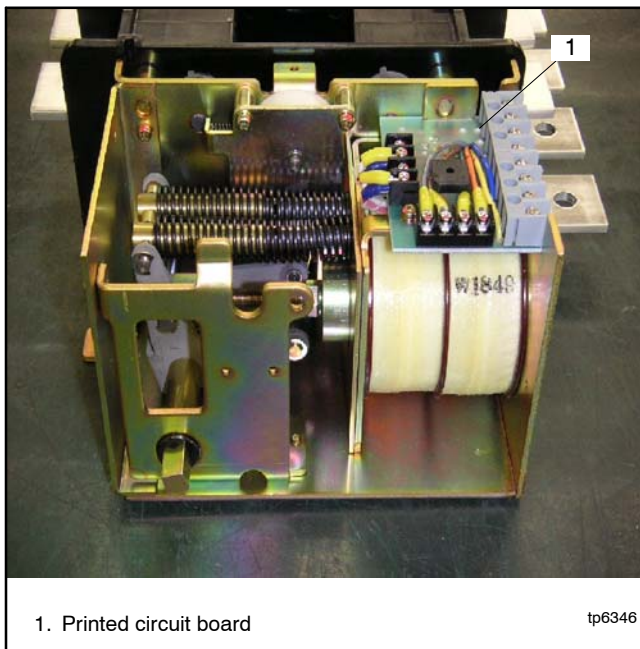

Figure 7-27 Disconnect and remove the PCB
1. Disconnect and remove the printed circuit board (PCB). See Section 7.6.2 and Figure 7-27.